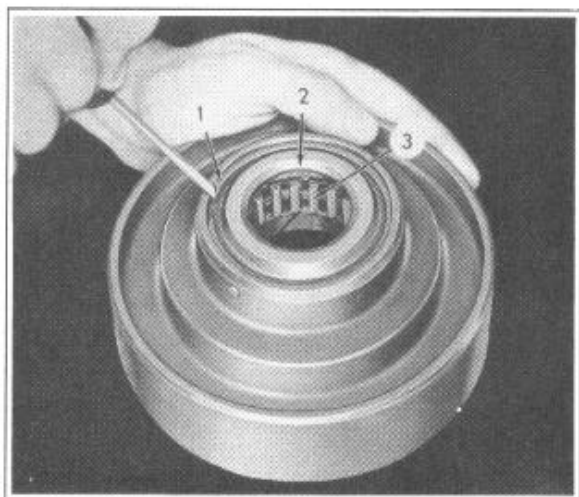

FIGURE 101
10. Remove the forward free wheel unit spacer snap ring (1), Figure 101, by prying
11. remove the spacer plate (2), Figure 101, from the forward brake drum